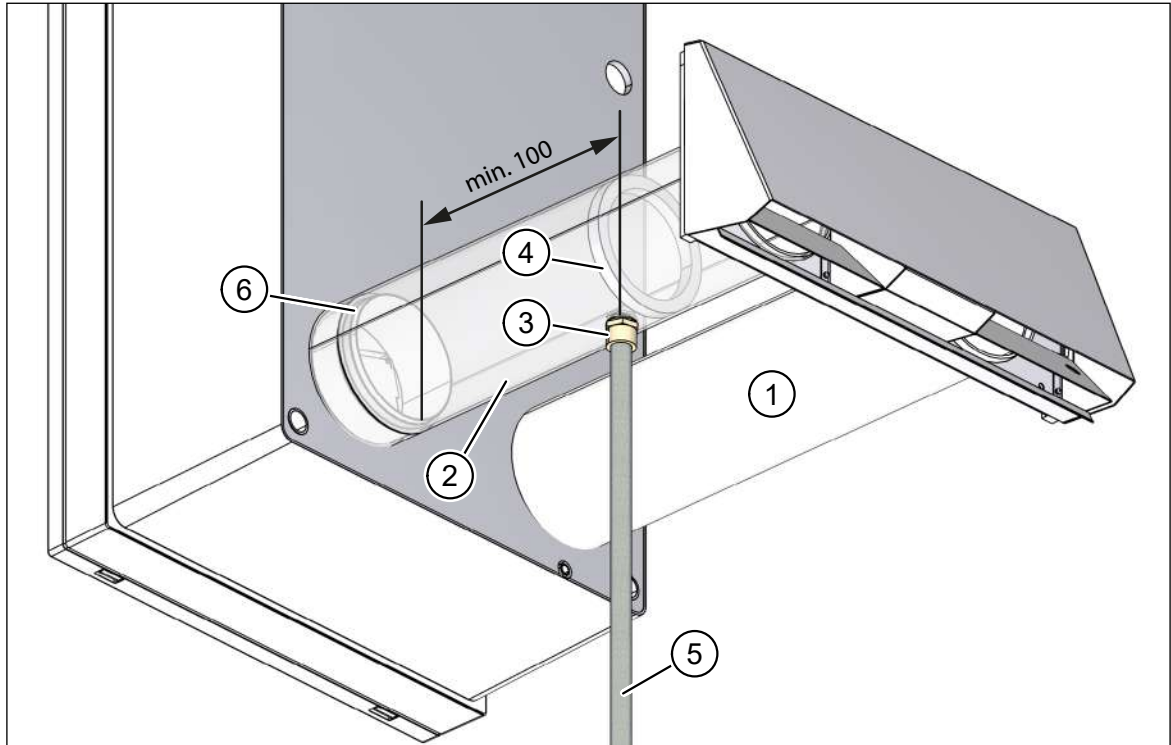

Fig. 34: Condensate drain on the exhaust air pipe, dimension in millimetres
- Outdoor air pipe, DN 100, 0.5 m (item 1 in Fig. 34)
- Exhaust air pipe, DN 100, 0.5 m (item 2 in Fig. 34), with 1/2" male thread connection (item 3 in Fig. 34) and barrier (item 4 in Fig. 34) for retaining the condensate.
- In cold regions, protect the condensate drain pipe (item 5 in Fig. 34) against frost, e.g. by running it behind the facade insulation.
- Maintain a minimum gap of 100 mm between condensate drain pipe (item 5 in Fig. 34) and exhaust air connector (item 6 in Fig. 34).